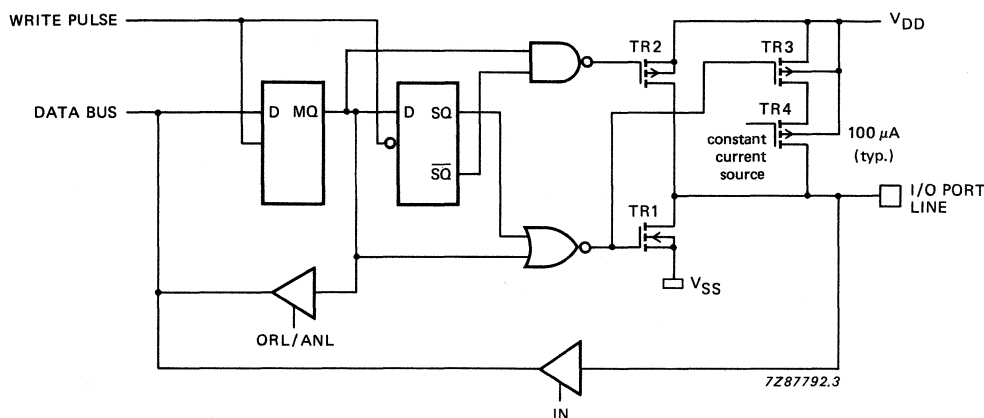

Fig. 11 Standard output with switched pull-up current source.
Figure 11 shows the quasi-bidirectional I/O interface with push-pull output and switched pull-up current source.
1. STANDARD PORT: quasi-bidirectional I/O with switched pull-up current source of $100 \mu A$ (typ.) and P-channel booster transistor TR2. TR2 is only active during 1 clock cycle (Fig. 11).